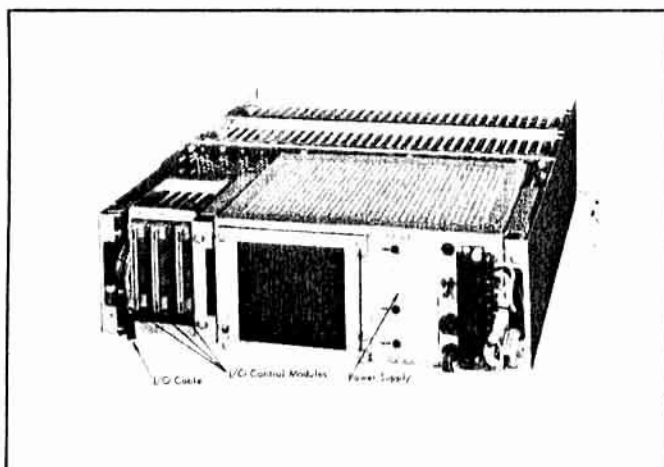

Figure 3. DA50, Rear View
1. On the exposed edges of the control modules at the rear of the chassis, shown in figure 3 and listed in table 5.